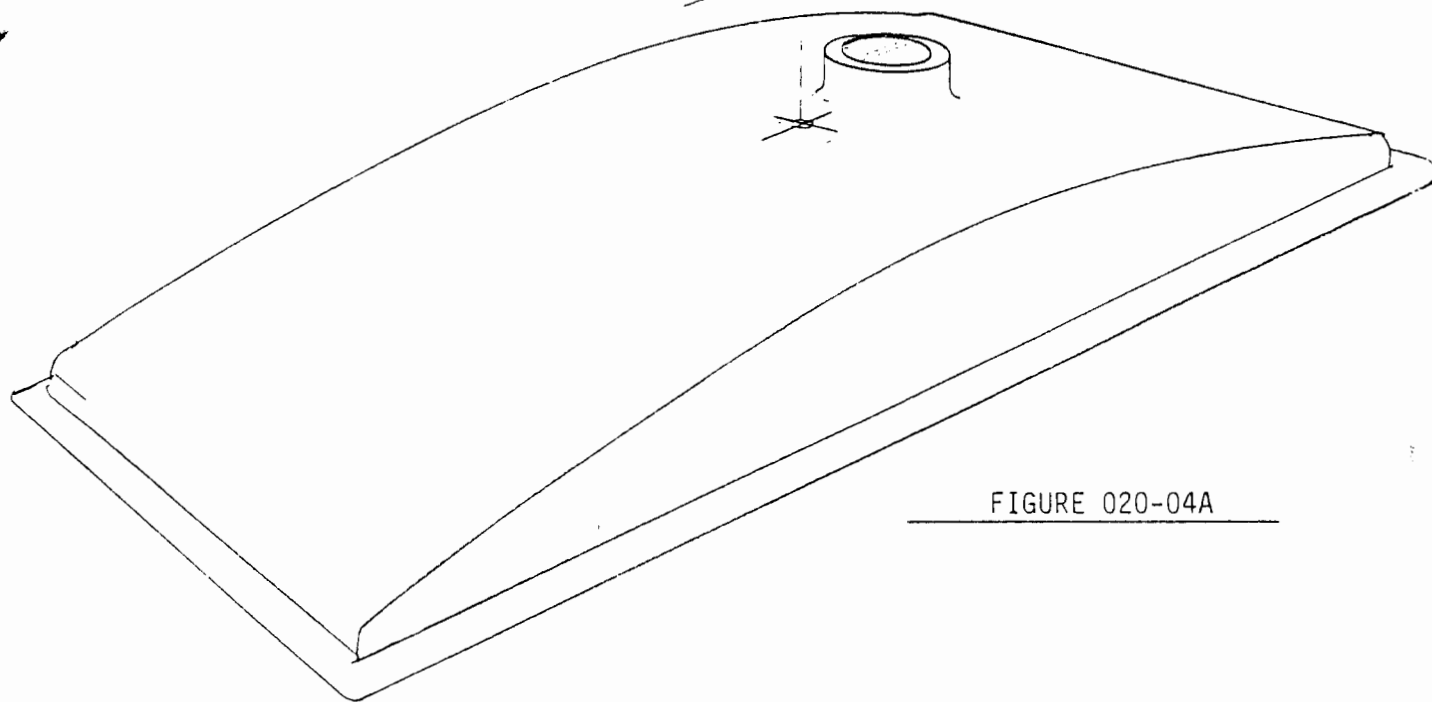

FIGURE 020-04A
4. Drill 3/8" diameter holes in the locations shown for the type of tank for your aircraft. Sand the area around the hole for better bonding. Mix a small portion of the J & B Weld, 50/50. Apply the epoxy to the threaded portion of the 90 degree fuel withdrawal fittings and screw them into the 3/8" holes. Point fittings as shown in Figure 020-04. Figure 020-04A shows the location for the 90 degree vent fitting. Be sure to point this fitting directly aft. Let the epoxy cure with the tank laid upside down. The correct amount of epoxy will form a nice ring completely around the fitting approximately 1/4" wide....Apply more if required.